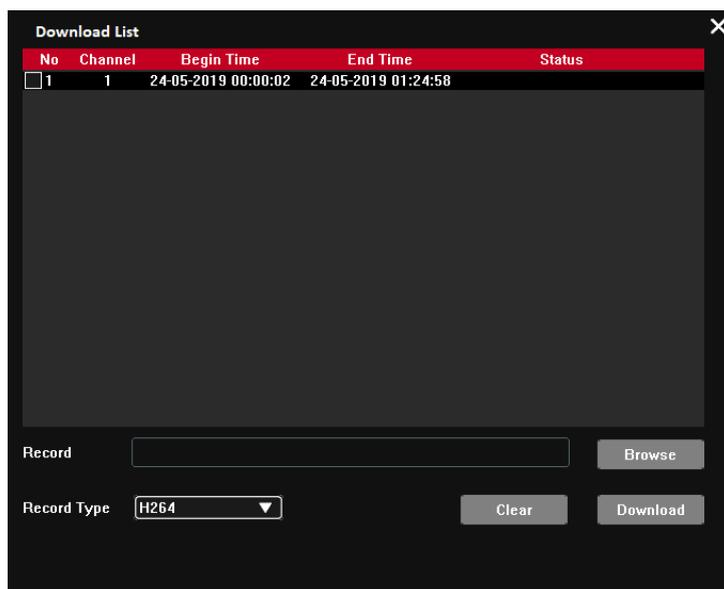

Figure 5.12
- ✓ **Download List-** Select the file(s) user want to download and then click download button, user can see an interface shown as in Figure 5.12. Click on browse button to Select file Destination and Select Record type like H264 or AVI and click on OK button to start Download.